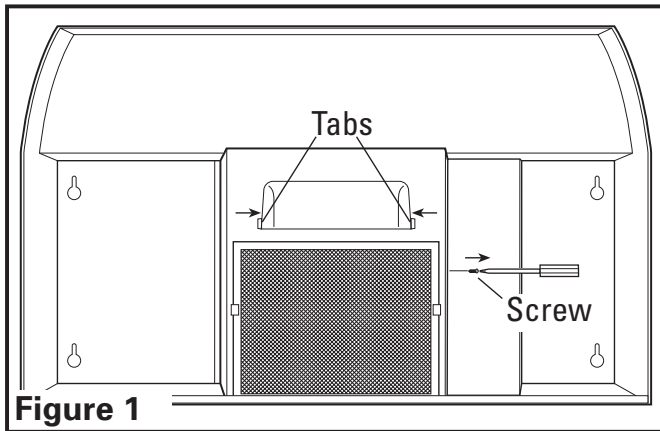

Figure 1
- Remove wire compartment cover screw and then lamp cover by squeezing the sides inward, removing it from the tabs located on the hood (**Figure 1**).